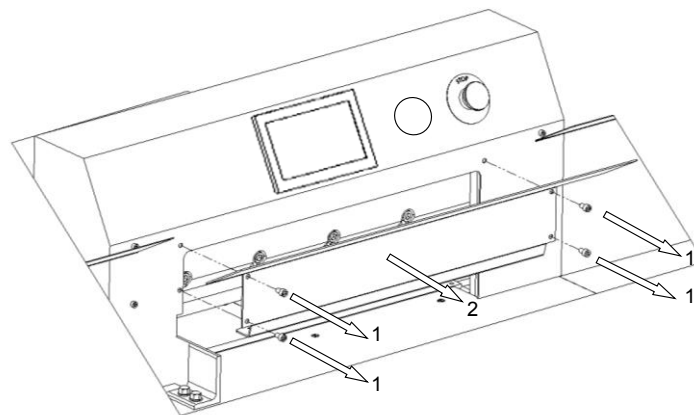

Figure.21
8.1.1.4 Remove the four screws 1 (fig.21) securing the cover, 2, and remove the cover.